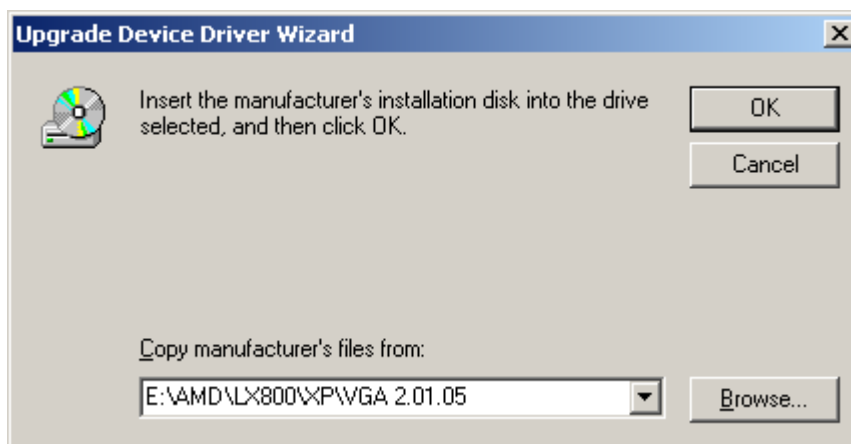

Figure 6-12: Location Browsing Window
Step 10: Click **Browse** and navigate to the **X:\AMD\LX800\XP\VGA 2.01.05** directory, where “X:” is the system CD drive (**Figure 6-12**).